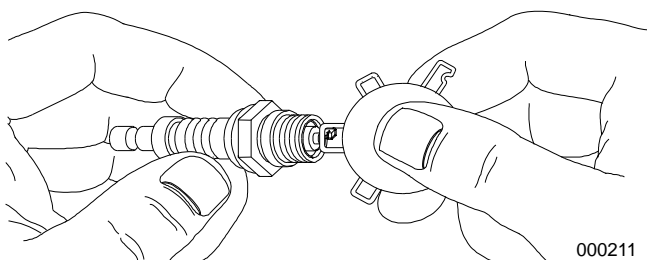

Figure 4-80. Checking Spark Plug Gap
3. See Figure 4-80. Using a wire feeler gauge set the gap on new or used spark plugs as per Table 4-12.